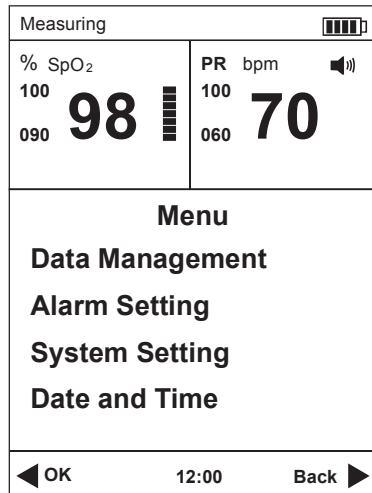

Fig.4-2
- 1) Press the power switch for 3 seconds to power on the oximeter and then press the menu button to enter the main menu, refer to the Fig.4-2.